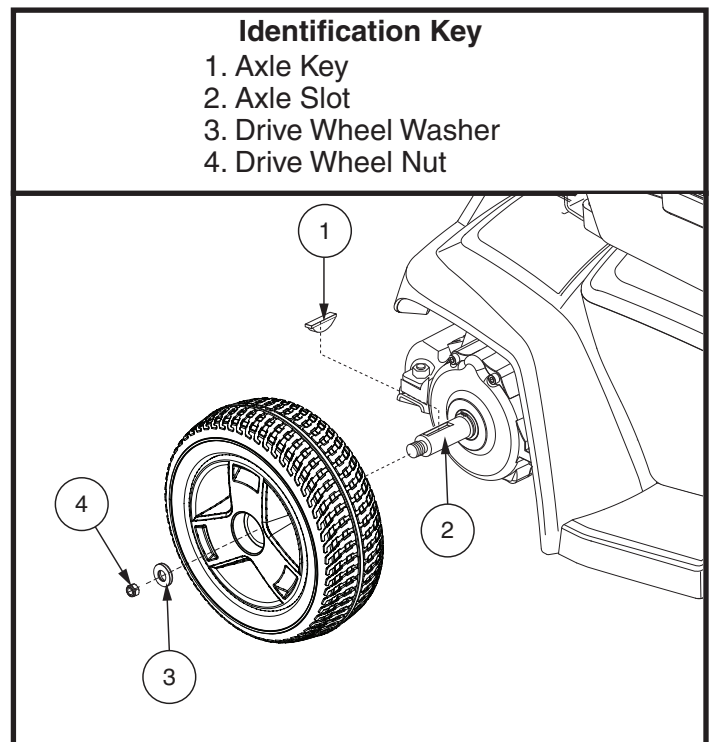

Figure 16. Go-Chair Drive Wheel
3. Remove the drive wheel nut and washer from the axle. **See figure 16.**